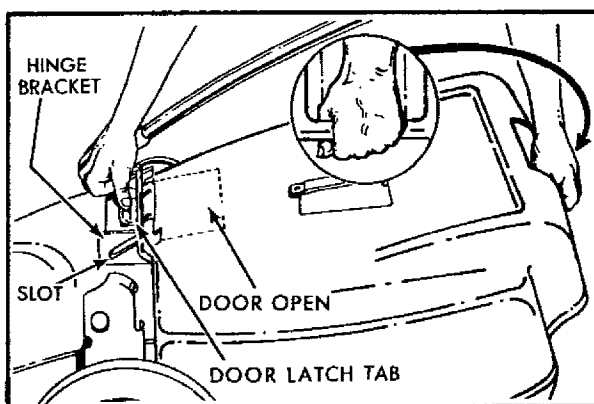

FIG. 11
2. Depress the door latch tab and slide the frame into position at the end of the slot (See Fig. 11).
4. To remove grass catcher, SHUT OFF ENGINE, lift up on back of grass catcher with one (1) hand and press down on the door latch tab with the other hand (See Fig. 11).